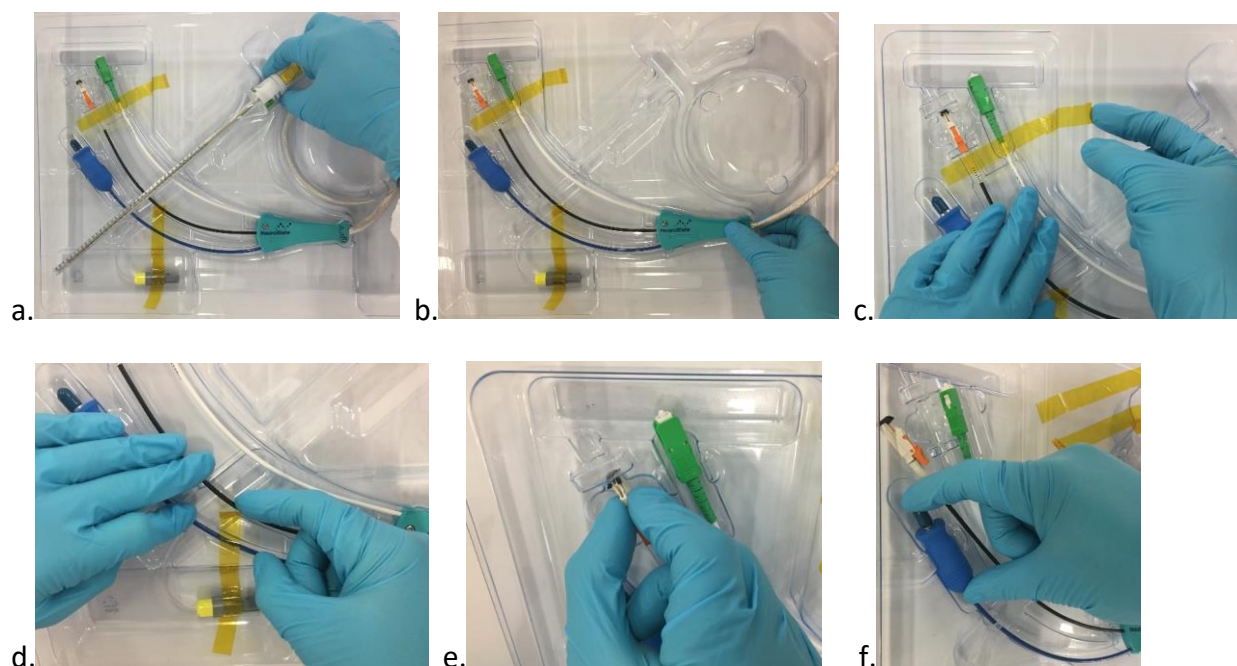

Figure 8.6: Remove the LDP from the tray.
- Remove the LDP main section by gently pulling up on the probe interface (Figure 8.6 a)
- Lift the clamp shell from the tray by gently pulling up on its plastic body (Figure 8.6 b)
- Remove tape holding the probe detection and temperature sensor plugs (Figure 8.6 c and d).
- Carefully pull the laser fiber connector up and out from the tray to ensure the fiber line is not bent near its connector. (Figure 8.6 e)
- Gently lift up on the cooling plug to remove (Figure 8.6 f)